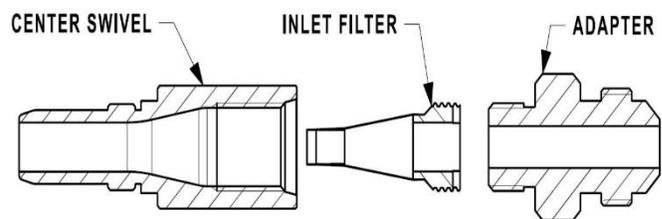

Figure 6: Inlet Filter
5. **As Required:** Inspect & Replace nozzle inlet filter to ensure proper operation of the nozzle (Figure 6)